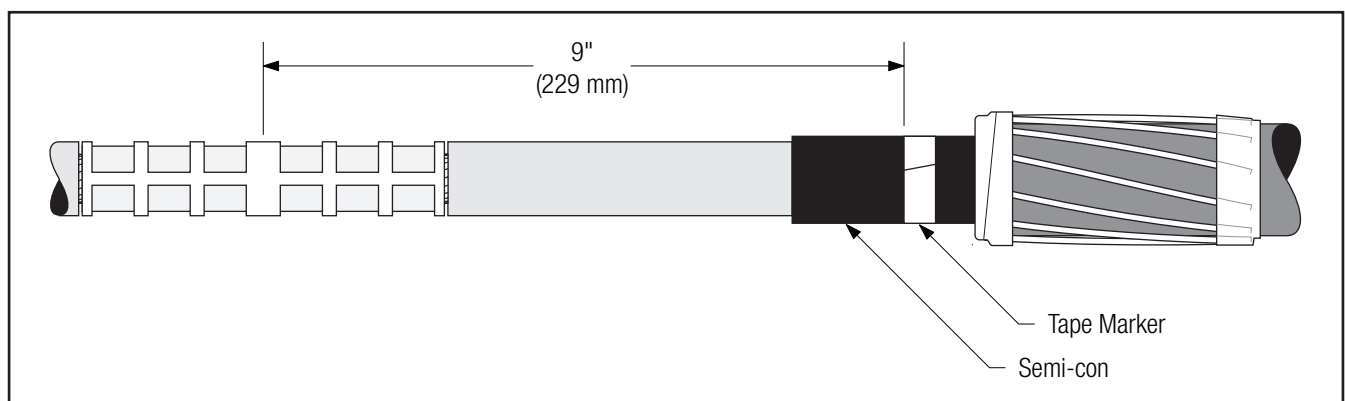

Figure 12
- 4.1 Apply a tape marker to semi-con insulation shield on cable which does not contain splice. Measure 9" (229 mm) from center of connector (*Figure 12*).